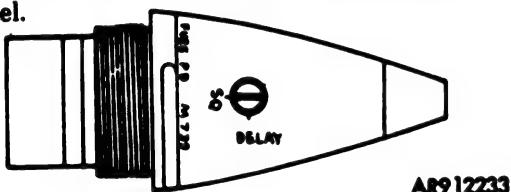

Figure 211.17. Point detonating fuze M739 series.
c. **Fuze, Point Detonating, M739 and M739A1** (fig. 211.17). These fuzes are the latest improved version of the selective impact fuze. Each has an aluminum body, and a rain insensitive head so that it can be fired through a heavy rainstorm without premature functioning of the round of ammunition. These fuzes come shipped set for superquick action, and can be set for delay action by turning the setscrew. The M739A1 fuze contains a new impact delay module which provides more effective functioning in the delay mode. In addition to the stamped markings, the M739A1 fuze is anodized green for positive identification of fuze model.